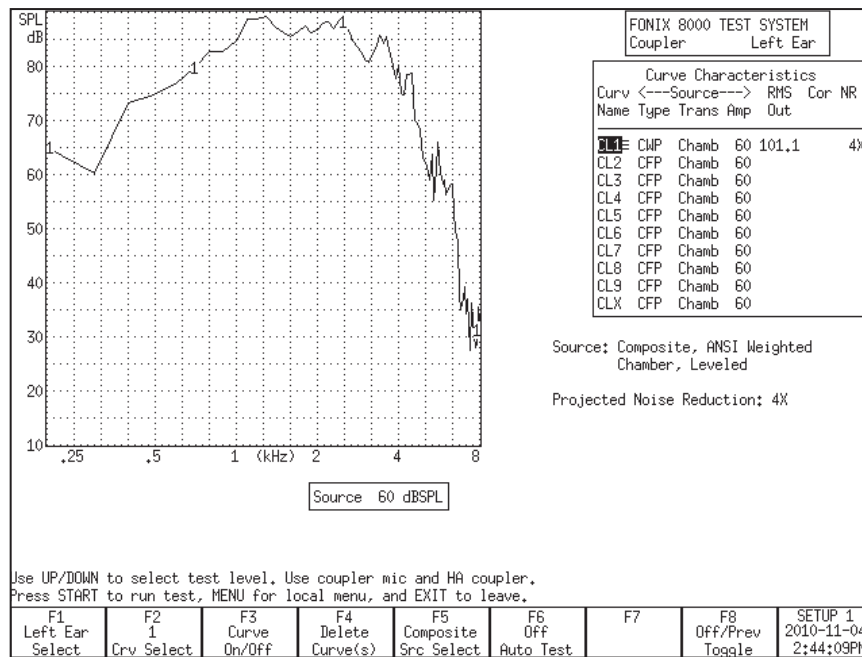

Figure 2.3.2.4—Example of IM distortion
The complex signals are helpful for identifying intermodulation distortion (IM). IM distortion occurs when amplitudes at more than one frequency in a signal combine to create an amplitude at a frequency not present in the original signal. When viewing a graph run with a composite signal, look for points along the graph where the line “breaks up.” Such an appearance indicates the presence of IM distortion. See Figure 2.3.2.4 for an example of IM distortion.